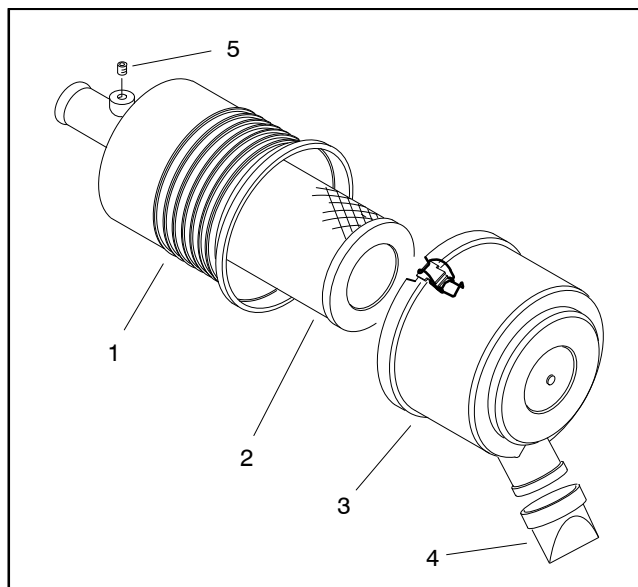

Figure 5
4. Disassemble air cleaner as necessary (Fig. 5).
- A. If plug (item 5 in Fig. 5) was removed from air cleaner housing, apply sealant to threads of plug before assembly.